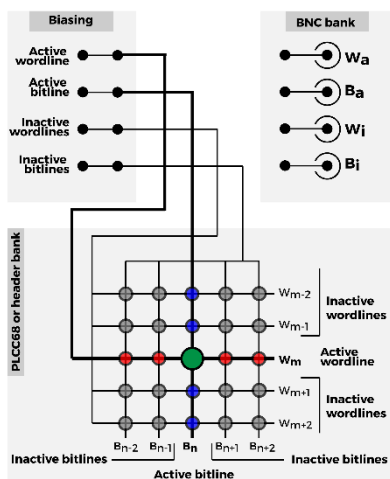

Figure 5.1. Live: Local session mode board connectivity
1. **Live: Local** - normal operation mode, all outputs are applied to the on-board package holder, and to the surrounding headers (Figure 5.1).
Sneak Path Limiting sets up the sneak path mitigation technique employed in selectorless crossbar arrays. The user can choose between V/2, V/3. During a WRITE pulse of V_{write} , the biasing nodes (as in Figures 5.1, 5.2 and 5.3) have the following potentials: